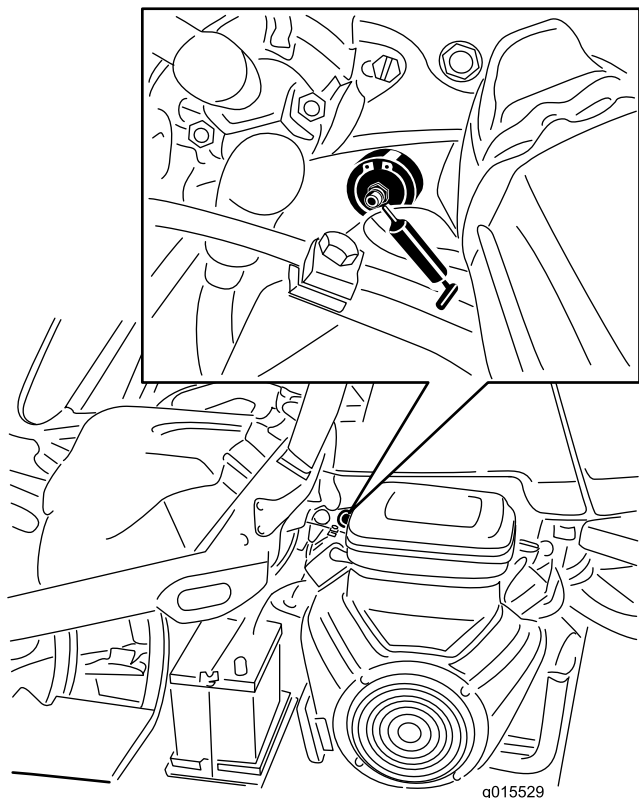

Figure 42
1. Wipe the grease fitting clean so foreign matter cannot be forced into the bearing or bushing (Figure 42).